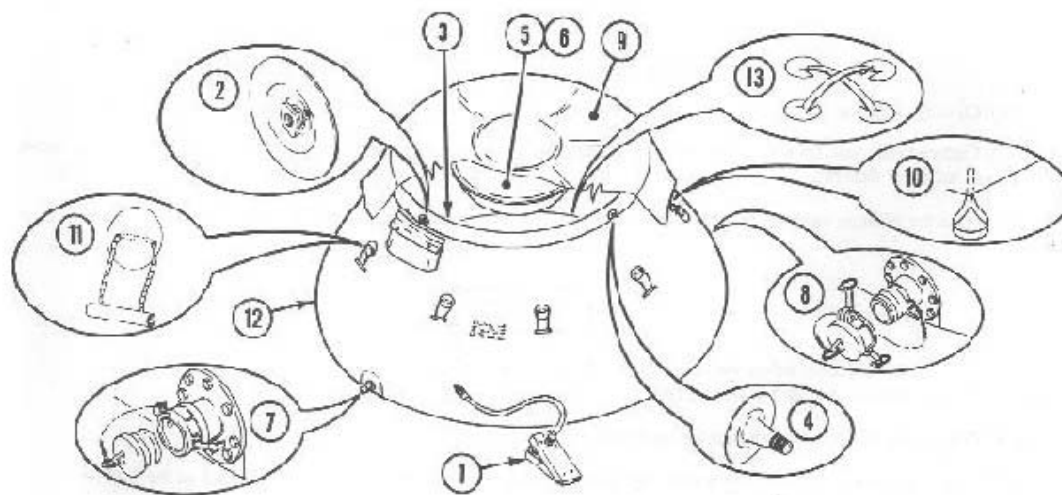

Figure 3-3
3. Inflate the tank collar and cover float. (See Figure 3-3)
1. Draining and Drawing water from the tank. (See Figure 3-3)